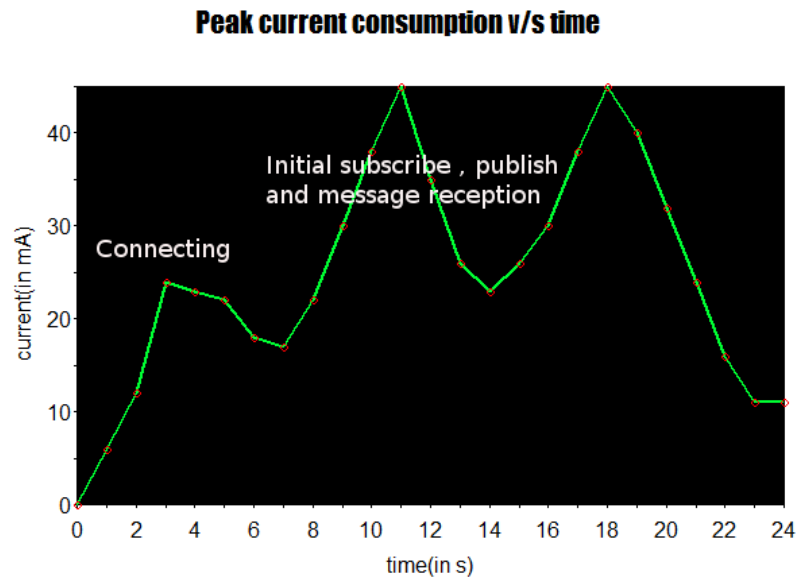

Figure 3: Peak
- A graph showing the breakup between the average current consumed by the H-bridge(theoretical) and the ESP8266 module.Refer figure 3